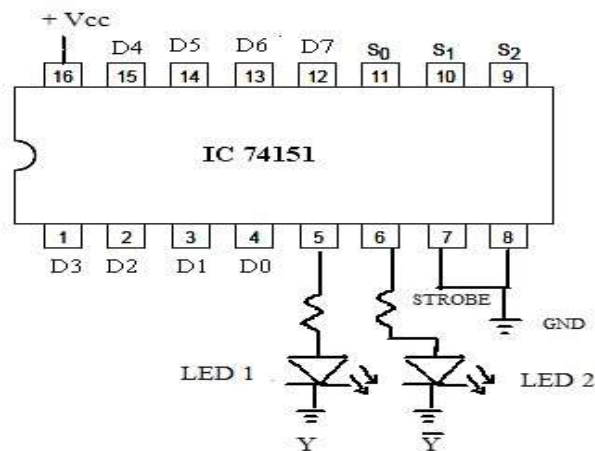

Figure 8.3: Circuit Diagram
3. Make the connections as per figure 8.3